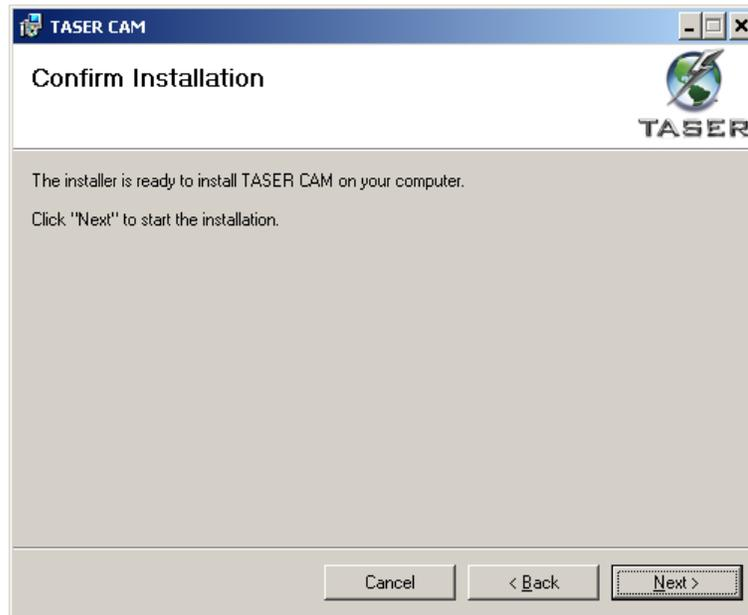

Figure 6
10. The system displays the Confirm Installation screen. Click **Next** to continue (Figure 6).